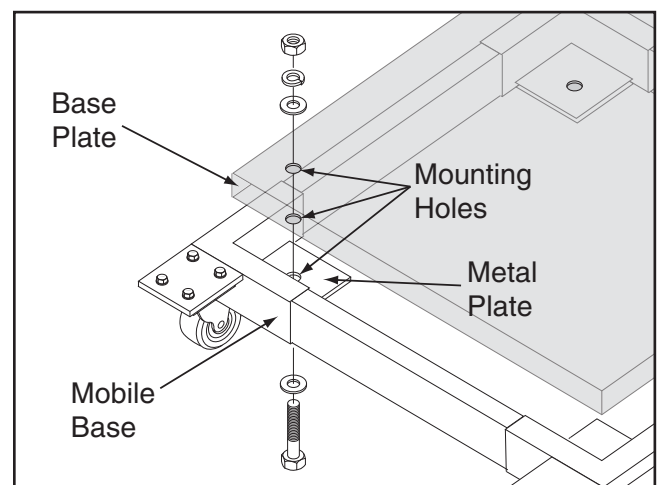

Figure 10. Mounting base plate to mobile base.
6. Secure base plate to mobile base with hex bolts, hex nuts, flat washers and lock washers, as shown in **Figure 10**.